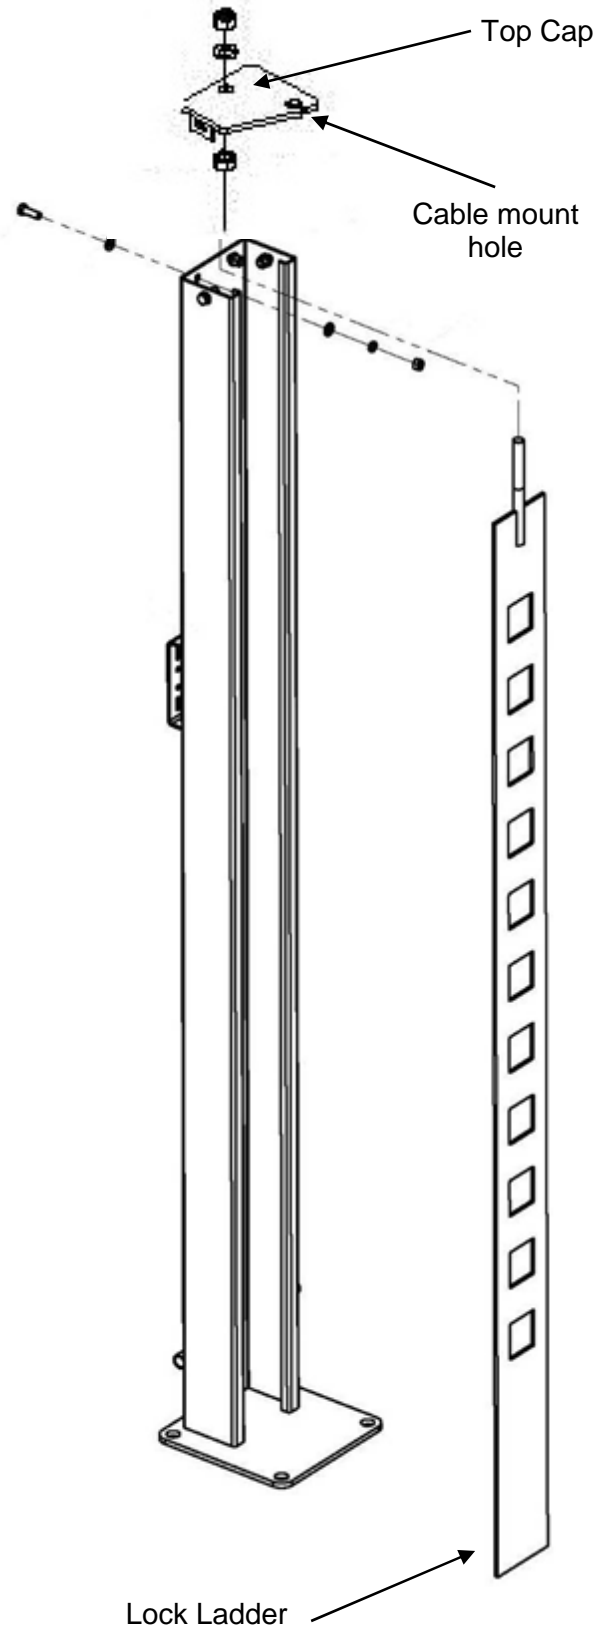

Fig. 4
11. Unpack the Lock Ladders (Fig. 4) from the package and slide them into the precut slot on the Rub Blocks (#56) inside each column. After removing the top Nut from the Lock Ladder, you are ready to install the Top Caps A & B (#3 & #4) on the columns.
12. Be aware of the offset hole in column's Top Caps. Arrange Top Caps so that the cable mounting holes are closest to the runways. Use provided Bolts, Nuts, Washers and Lock Washers to install Top Caps, as shown in Fig. 4 & 4b.